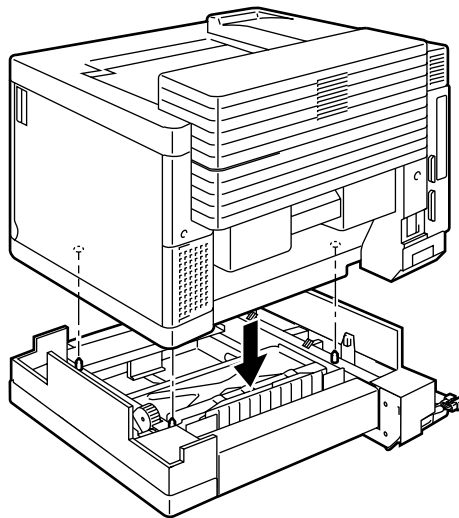

Fig. 7
- 5) Two people should be used to lift up the printer and place it onto the lower tray unit as shown in Figure 7.